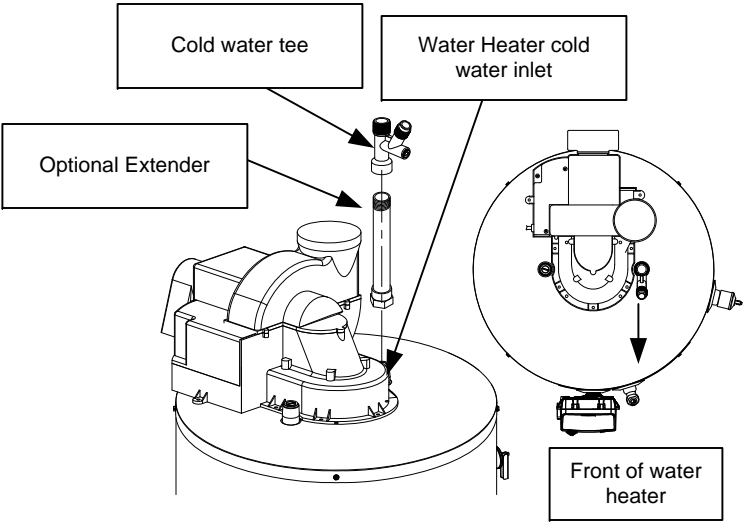
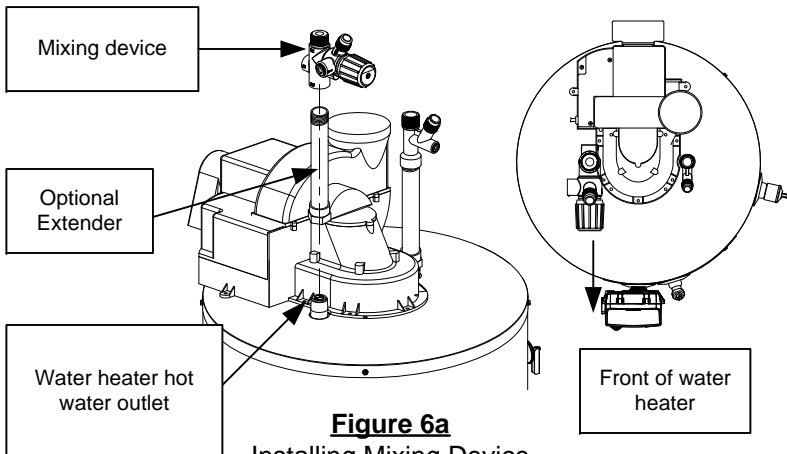

Figure 5a
Figure 6a
- In order to install this IMD on a unit with a blower mounted on top, it is necessary to remove the blower prior to installation and replace the blower after installation of this IMD, or purchase an optional nipple extender kit, p/n 239-48429-00. See Step 2a(Figure 5a) and Step 3a(Figure 6a).
2a. OPTIONAL INSTALLATION: Install the cold water tee onto the extension that is installed onto the cold water inlet of the water heater. If installing on a water heater with 1" inlet fitting, use 1" NPT to 3/4" NPT brass reducer bushing and brass nipples. Tighten until leak tight and facing the front of the water heater as shown in Figure 5a.
3a. OPTIONAL INSTALLATION: Install the mixing device onto the extension that is installed onto the hot water outlet of the water heater. If installing on a water heater with 1" outlet fitting, use 1" NPT to 3/4" NPT brass reducer bushing and brass nipples. Tighten until leak tight and facing the front of the water heater as shown in Figure 6a.